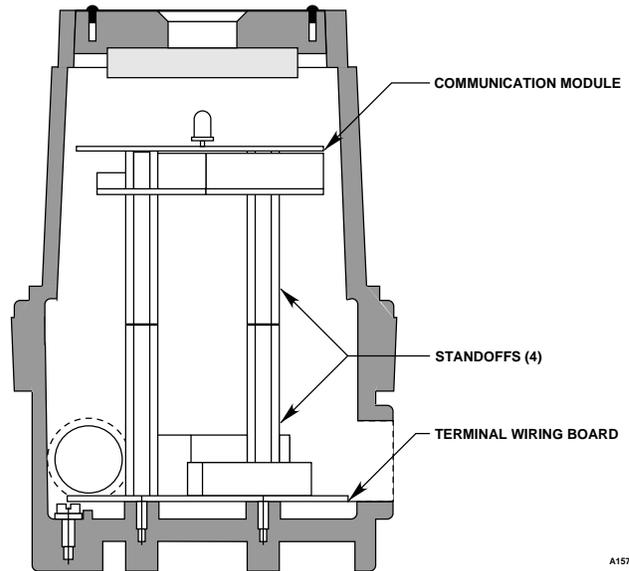
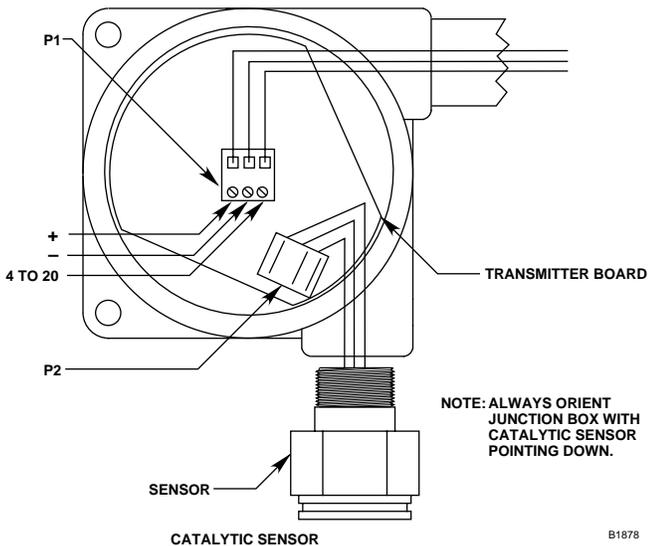

Figure 4—Printed Circuit Boards in Universal DCU
Figure 10—Sensor Separation Kits
2. A communication module mounted above the terminal wiring board using the standoffs provided. See Figure 4.
Attach the communication module to the standoffs as shown in Figure 4. Connect the ribbon cable from the terminal wiring board to the communication module.
Mount the transmitter PC board inside the sensor separation junction box. This assembly can be separated from the DCU EX by up to 1000 feet using three conductor 18 AWG shielded cable. (Regardless of separation distance, operating voltage at the transmitter MUST be at least 18 vdc to ensure proper operation.) See Figure 10.
Assemble the DCU EX without the transmitter board similar to the DCU as shown in Figure 4. Plug the sensor into P2 on the transmitter board. Use a three conductor 18 AWG shielded cable to connect P1 on the transmitter board to terminals 2, 3 and 4 on the DCU terminal board (see Figure 10). Connect the shield to the ground terminal in the DCU EX junction box.